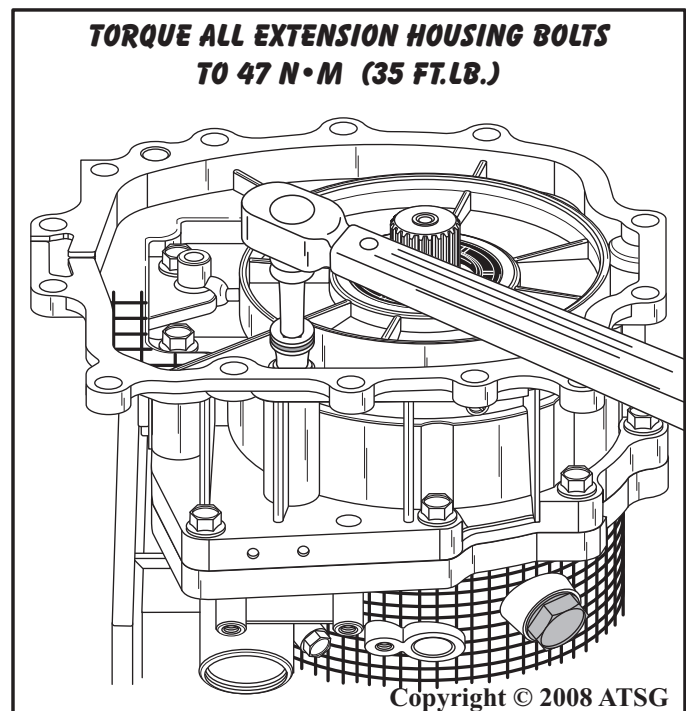

Figure 233
3. Torque all of the extension housing bolts to 47 N•m (35 ft.lb.), as shown in Figure 233.